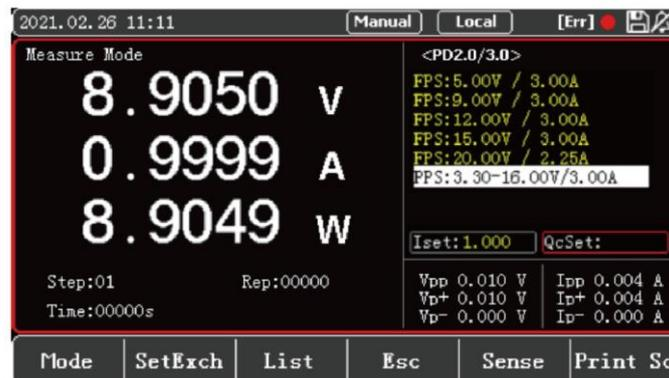

Figure 5-4-2 <PD2.0/3.0> Setting and Display Interface
- For types such as the programmable voltage item PPS, users can enter the required voltage value through the QcSet column and press the Enter key  to confirm. If the input data is within the range, the Vset value will change accordingly. Then press the ON button on the panel to load. After the load is successful, the ON button indicator will turn green, the correct voltage and load value will be displayed on the screen, and the OK symbol will be displayed on the upper right of the screen. Figure 5-4-2 shows the page after PPS 9V/1.000A is loaded.